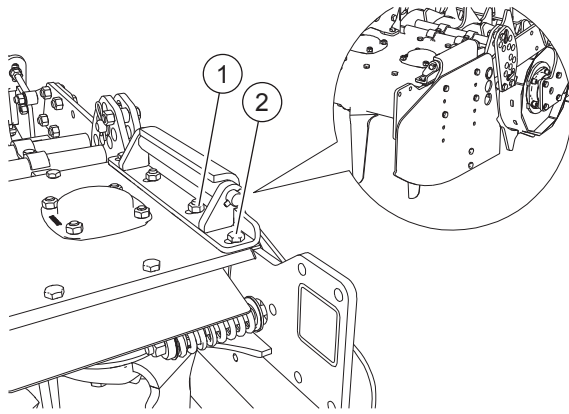

FIG. 17
- Loosen the bolts (2, "Fig. 17"). Loosen the nuts (1). Remove the unit.